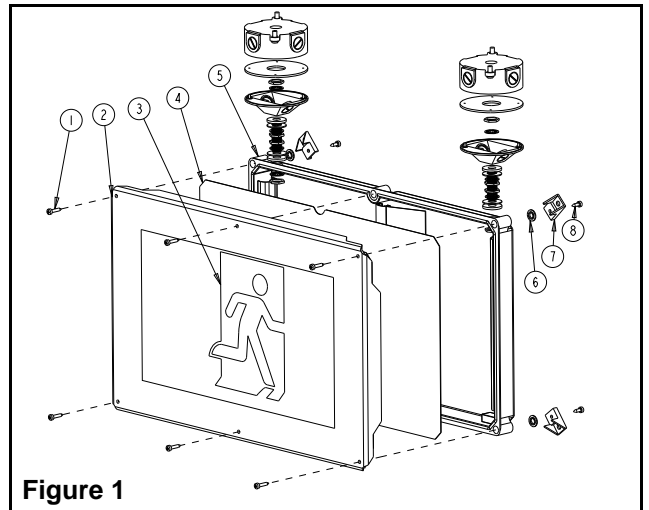

Figure 1
2. Install the four plastic mounting brackets(7) (see Fig.1). Use the plastic spacers(6) between the housing and the bracket and tighten using the provided 10-32 x 3/8" screws(8).